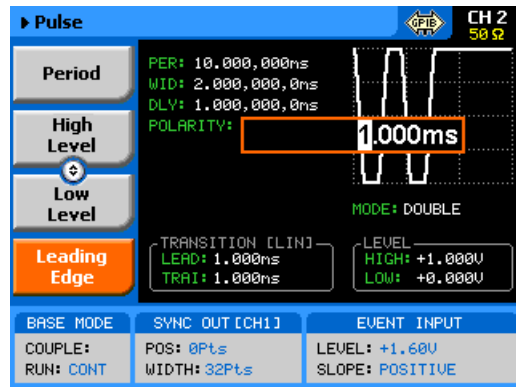

Figure 3-62, Leading Edge Programming Example
Using the SE5082 as your pulse source, you have four options to set up the pulse levels, as shown in Figure 3-62 and explained below:
1. **High/Low Levels.** This is the default option. Using this mode, you can program the high and the low levels directly, while allowing the instrument to set the internal amplitude and offset according to your selection. The maximum amplitude that can be programmed depends on the installed output module. Note that the amplitude level is specified when the pulse is applied on a 50Ω load impedance. The only way to exceed the peak-to-peak rail limitation is by increasing the load impedance, but then expect degradation of the pulse shape. The example in Figure 3-62 shows the high level set at 1 V and the low level set at 0.5 V and therefore, the resulting peak-to-peak level is 0.5 V.
2. **Amplitude/Offset.** This option allows separate modification of the amplitude and the offset. This option is very useful when you want to vary the vertical position of the pulse, but hold the peak-to-peak amplitude level fixed. The example in Figure 3-62 shows the amplitude set at 0.5 V and the low level set at 1 V and therefore, the resulting waveform is exactly as was programmed in the high/low level programming example.
3. **Positive.** This option is very useful when you want to vary the positive position of the pulse, but hold the low level fixed at the 0 V level. The example in Figure 3-62 shows the high level set at 1 V and the low level fixed at 0 V. Modification of the high level will not alter the low level position.